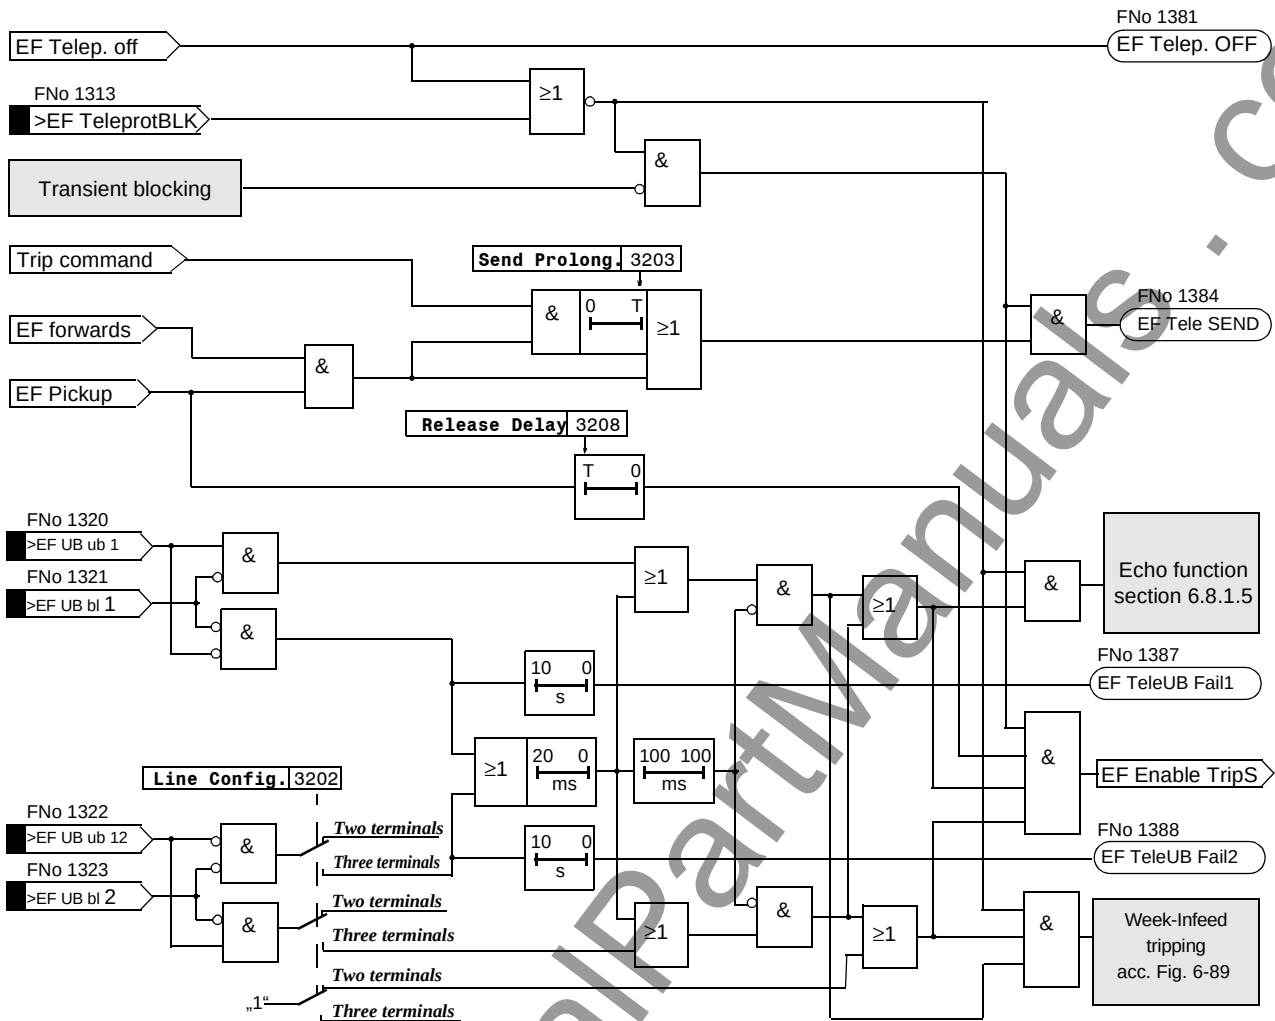

Figure 6-82 Logic diagram of the unblocking scheme (one line end)
- Figure 6-82 shows the logic diagram of the unblocking scheme for one line end.